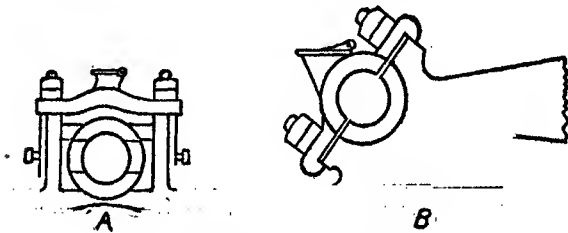

FIG. 44.—MAIN SHAFT BOXES.
**Main Bearing.**—These are the bearings which carry the crank shaft and therefore are made on a very heavy and substantial pattern. There are two different styles of bearings both of which are illustrated in Fig. 44. The "quarter box" A is not used to very great extent on modern engines unless they should be of small power and light construction. They have been succeeded by what is known as the "half-
The half box hearings B, Fig. 44, are cast in two pieces, the base and lower half being in one piece and the cap in another. The dividing line is at an angle of forty-five degrees so that the wear will not come at the joints of the hearings but instead will be on the cap and base. The bore of the box is cast somewhat larger than the shaft and the space thus provided is filled with high-grade babbitt metal.